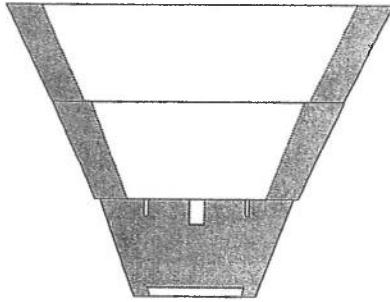

Figure 3: Sample layout for three-section blank
6. Duplicate the drawing, and cut the paper following the lines you've drawn. Make sure that they stack as desired. Tape the sections together. It is far cheaper to make a mistake on your paper pattern than on your wood! See Figure 3 on page 3.